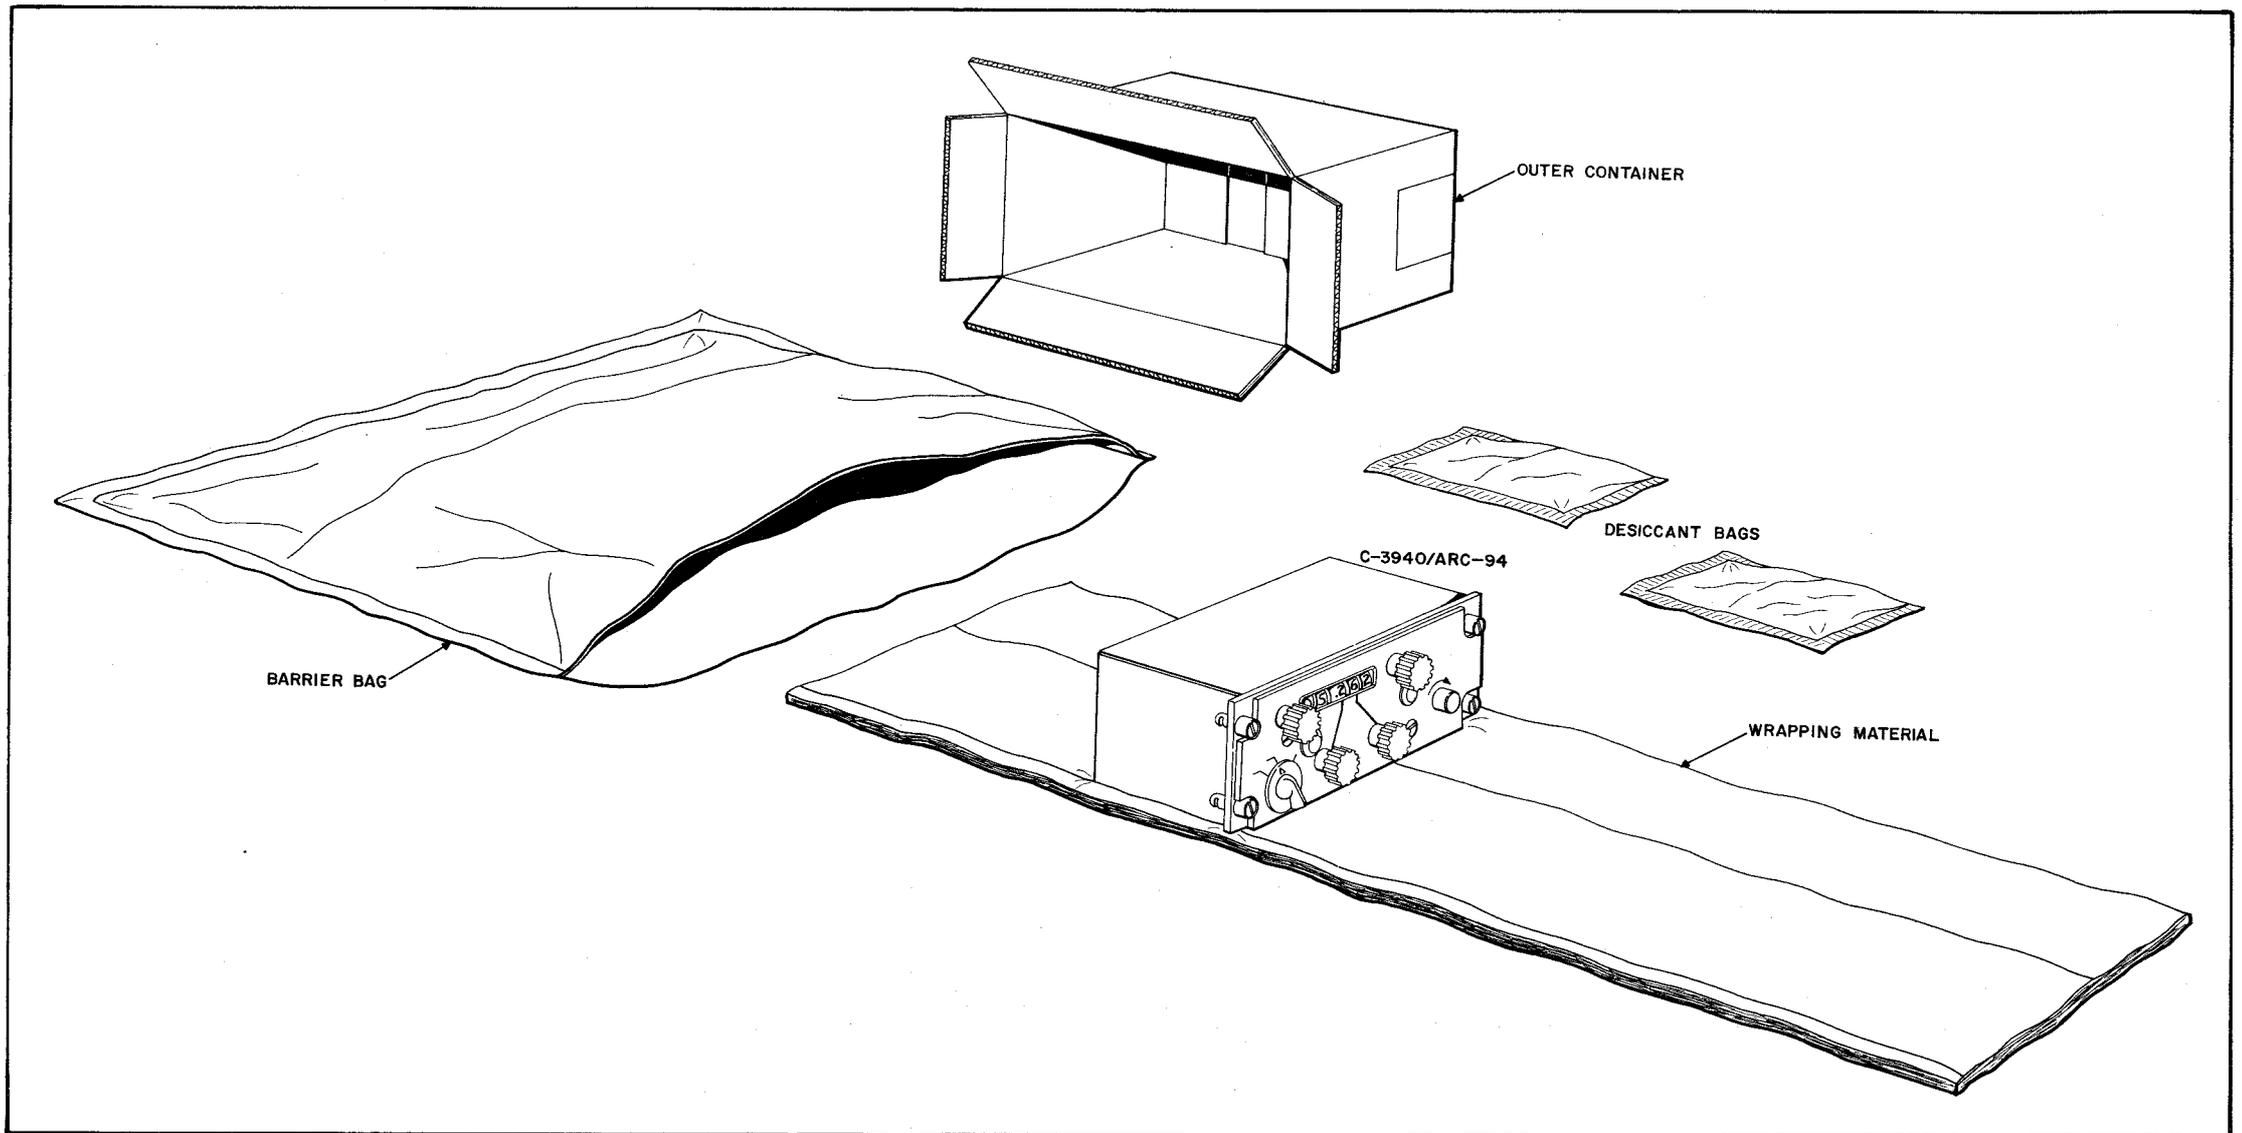

Figure 3-1. Packaging Details, Radio Set Control C-3940/ARC-94
- a. Refer to figure 3-1, 3-2, and 3-3. Remove each of the containers from the components as shown. Remove packaging material with care. Plan to reuse it for storage and/or future shipment.
3-35. Refer to figures 3-1, 3-2, 3-3, and package equipment according to the illustrations. Use the specified packing materials or their approved substitutes. If Radio Set AN/ARC-94 is to be shipped under special circumstances, different packaging may be acceptable. The packaging specified in figures 3-1, 3-2, and 3-3 is not sufficient for overseas transportation. Get in touch with your supply officer for overseas packaging information.